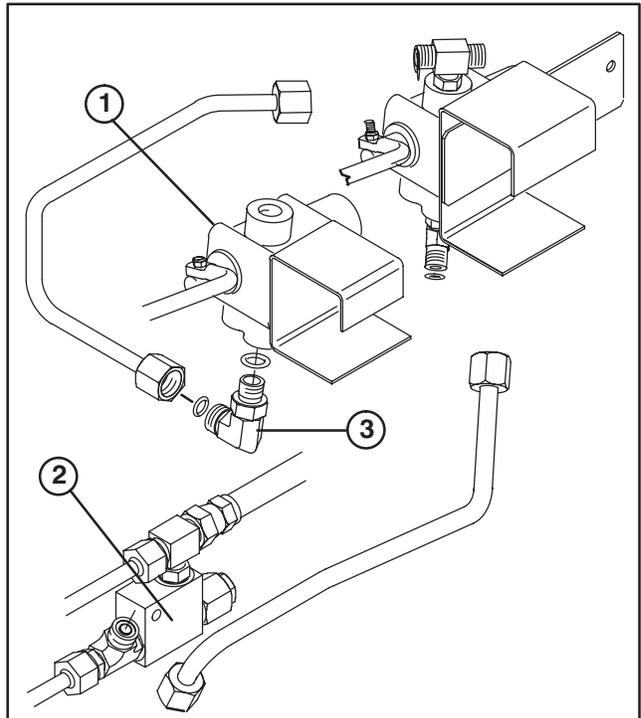

Figure 13
21. Loosely thread a 90° fitting into bottom port of lift valve (Fig. 13).
22. Mount a hydraulic tube to 90° fitting in bottom port of lift valve and tee fitting in top port of auxiliary valve (Fig. 13).
23. Mount a hydraulic tube to tee fitting in power steering relief valve and 45° fitting in bottom port of auxiliary valve (Fig. 13).